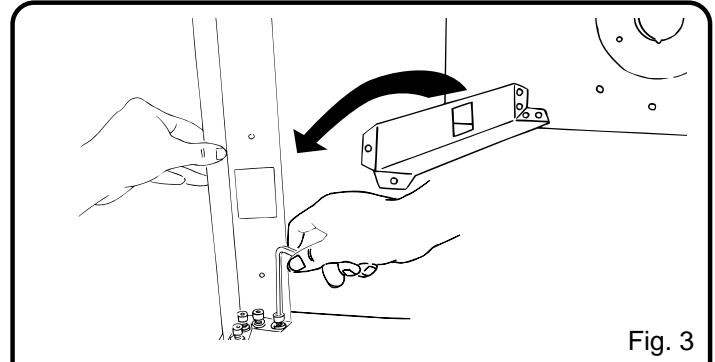

Fig. 3
- Place router table upside down on a flat, level surface, so that the front edge is closest to you. Position legs as shown in Figure 3. With the router table upside down, the leg with the rectangular cutout should be in the front left corner of the table.